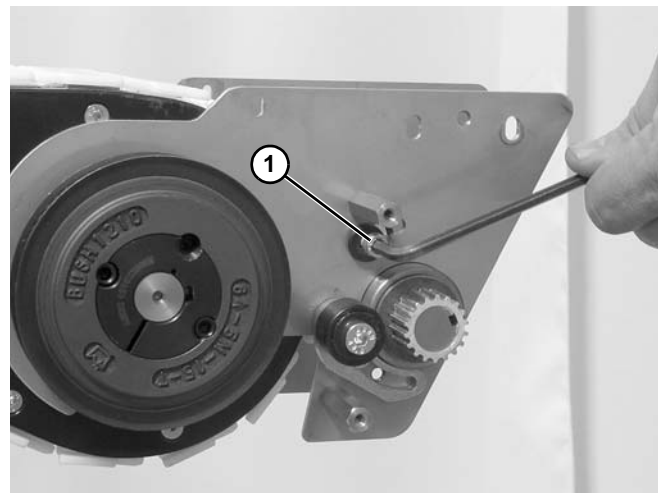

Figure 168
12. Remove socket head screw (**Figure 168, item 1**) on both sides of the conveyor and remove idler assembly.